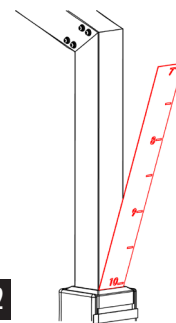

Figure 22
**STEP 13:** Add the Height Guide Decal (Part H) to the pole on the crank side with the 10' mark lined up with the top of the black joint cover. See Figure 22.